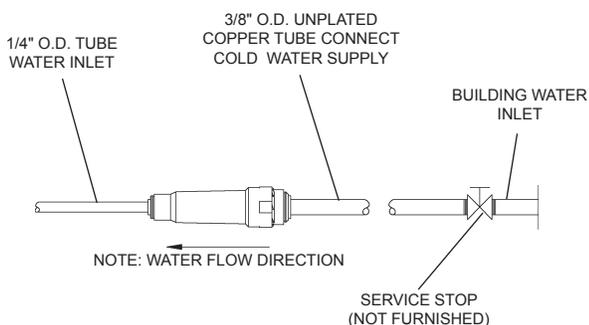

FIG. 8
5. Connect drain and water supply lines to the freeze resistant fountain. Refer to Figure 1 for component positions. Inline strainer must be used on the inlet water line. See Fig. 8.